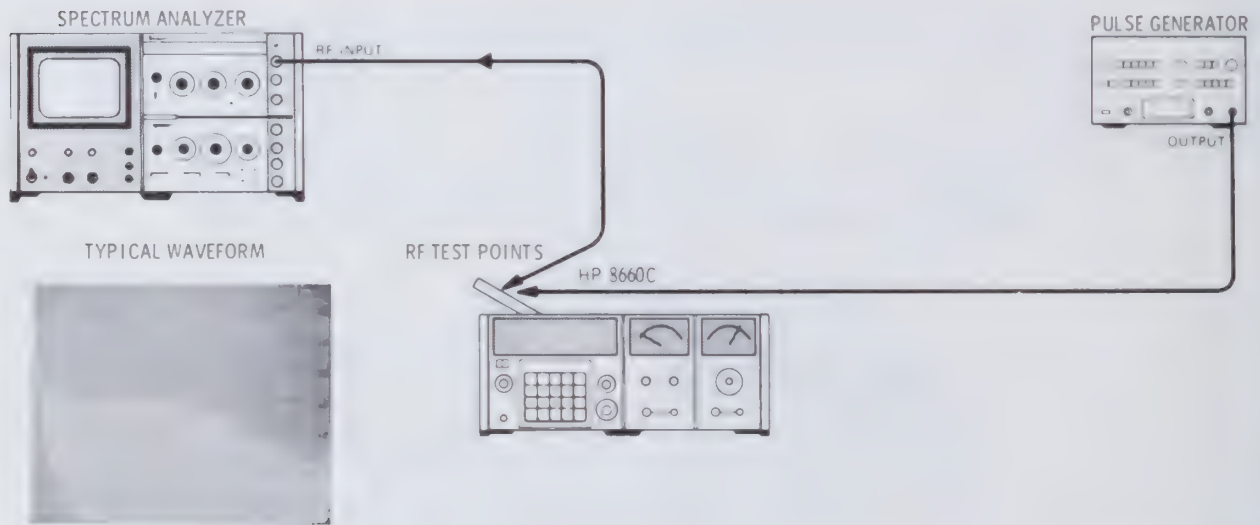

Figure 5-10. Phase Detector Response Adjustment Test Setup
1. Phase Detector Response Adjustments (see Figure 5-10).
- c. Adjust EFFiciency control A4A7R18 for a flat response to approximately 5 MHz with very slight peaking (1 dB  $\pm$  1 dB). See the waveform in Figure 5-10 for typical response.